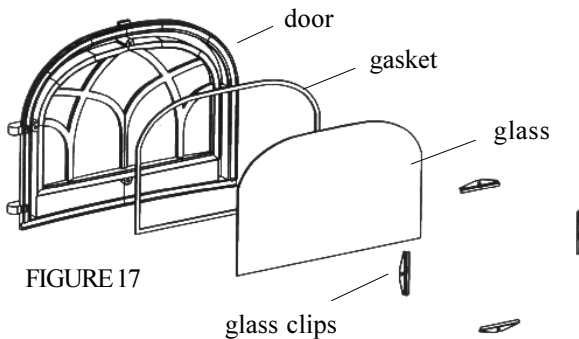

FIGURE 17
6. Center the new glass panel over the gasket and reinstall the glass clips. See figure 17.